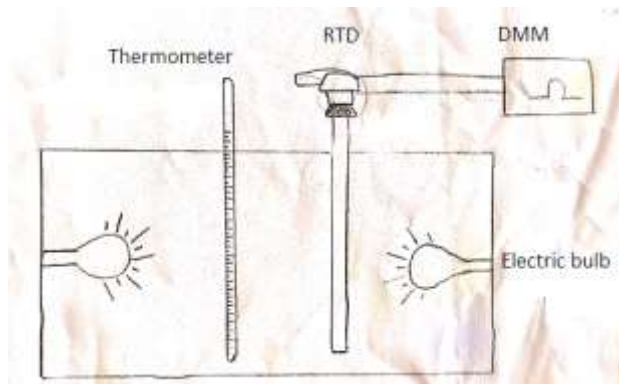

Fig.2 Temperature-well
- 2) Immerse the RTD into a temperature-well capable of covering the required temperature range (as shown in fig.2).